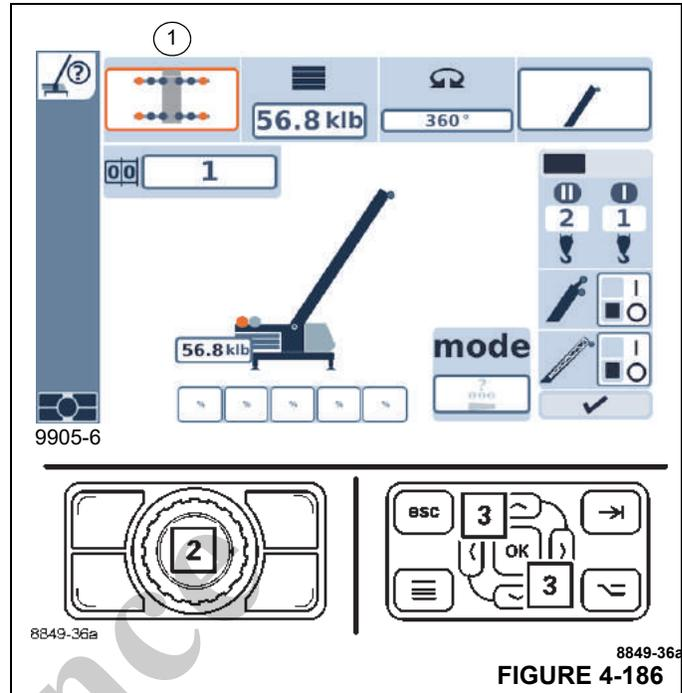

FIGURE 4-186
- Select and confirm the symbol (1, Figure 4-186).
- Use the buttons (2) or (3) to select the rigged outrigger span.